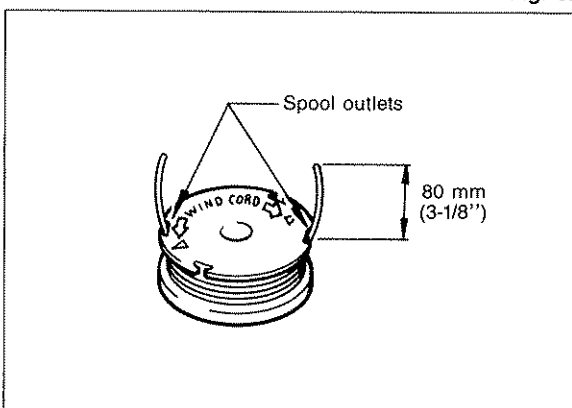

Fig. 33
3. First pass the ends of the cord through the spool outlets. (Fig. 33)